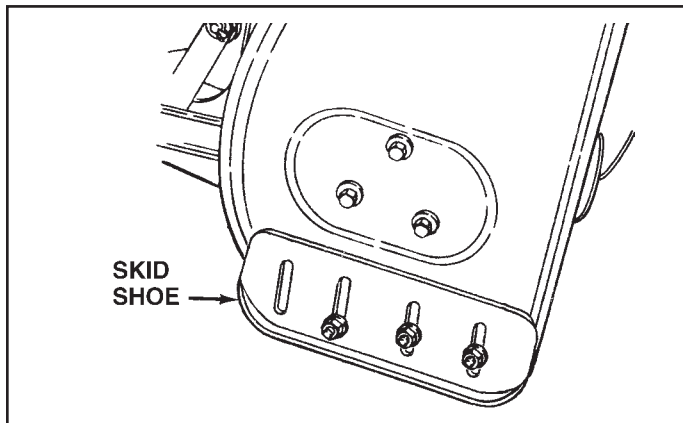

FIGURE 59
(Refer to figures 59 and 60 on page 28)
- Raise the snow thrower off the ground and place a block under each end of the scraper plate. Loosen the six hex nuts securing the skid shoes to the housing. Adjust the skid shoes up or down and retighten the nuts securely. Adjust both skid shoes to the same height to keep the housing and the scraper plate level. See figure 59.